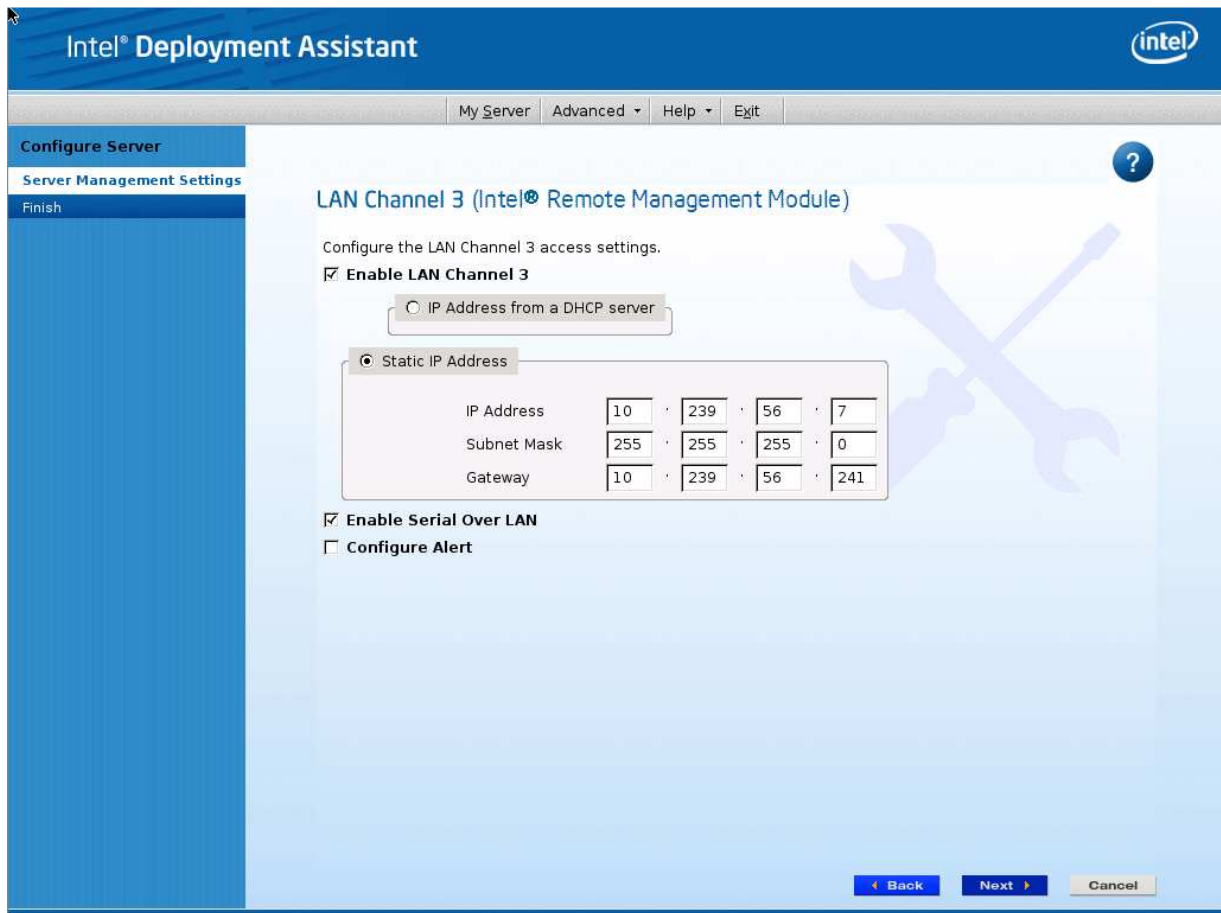

Figure 32: IDA Configure Server: Configure LAN Channel 3 (Intel® RMM4 DMN) Static IP Address Window
- b. If **Static IP Address** is selected, configure the **IP address, Subnet Mask, and Gateway** as shown in Figure 32.